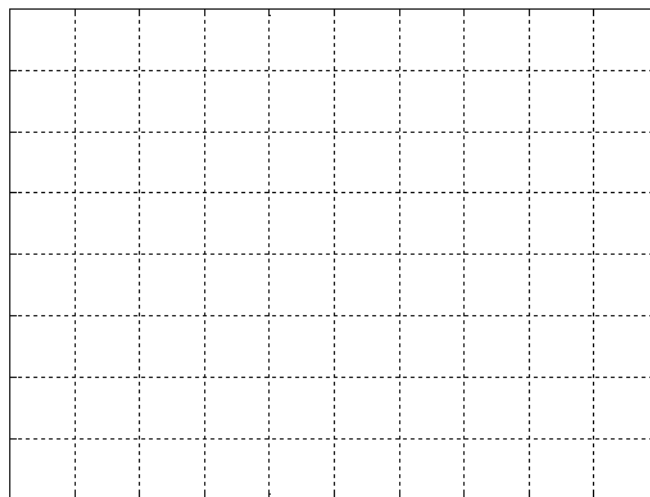

Figure 12. Graph Axis for recording the results from Experiment 1.
7. Click the Step Response Data Button, and use the axis provided in Figure 12 to sketch the 3 graphs displayed on the screen of the Step Response Results tab. (Ensure you label each of the three sketches)
Lab Q1: From your results in Table 3 and Figure 12, comment on the effects that increasing the spring stiffness has on the performance of the system. (The higher the spring constant, stiffer the spring)